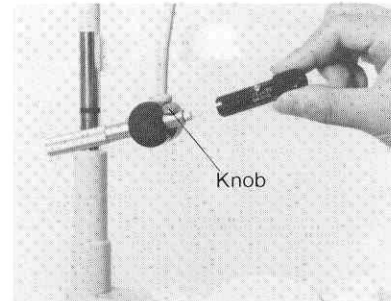

Fig. 49
- (1) Loosen the knurled knob of the fixation target ③④ slightly and detach the target end. (Do not turn the knob too much, as it will become detached.)
- (2) Grip the exposed lamp bulb and put out until it comes off.
- (3) Replace with a new bulb and check illumination of the target. (See Fig. 49)